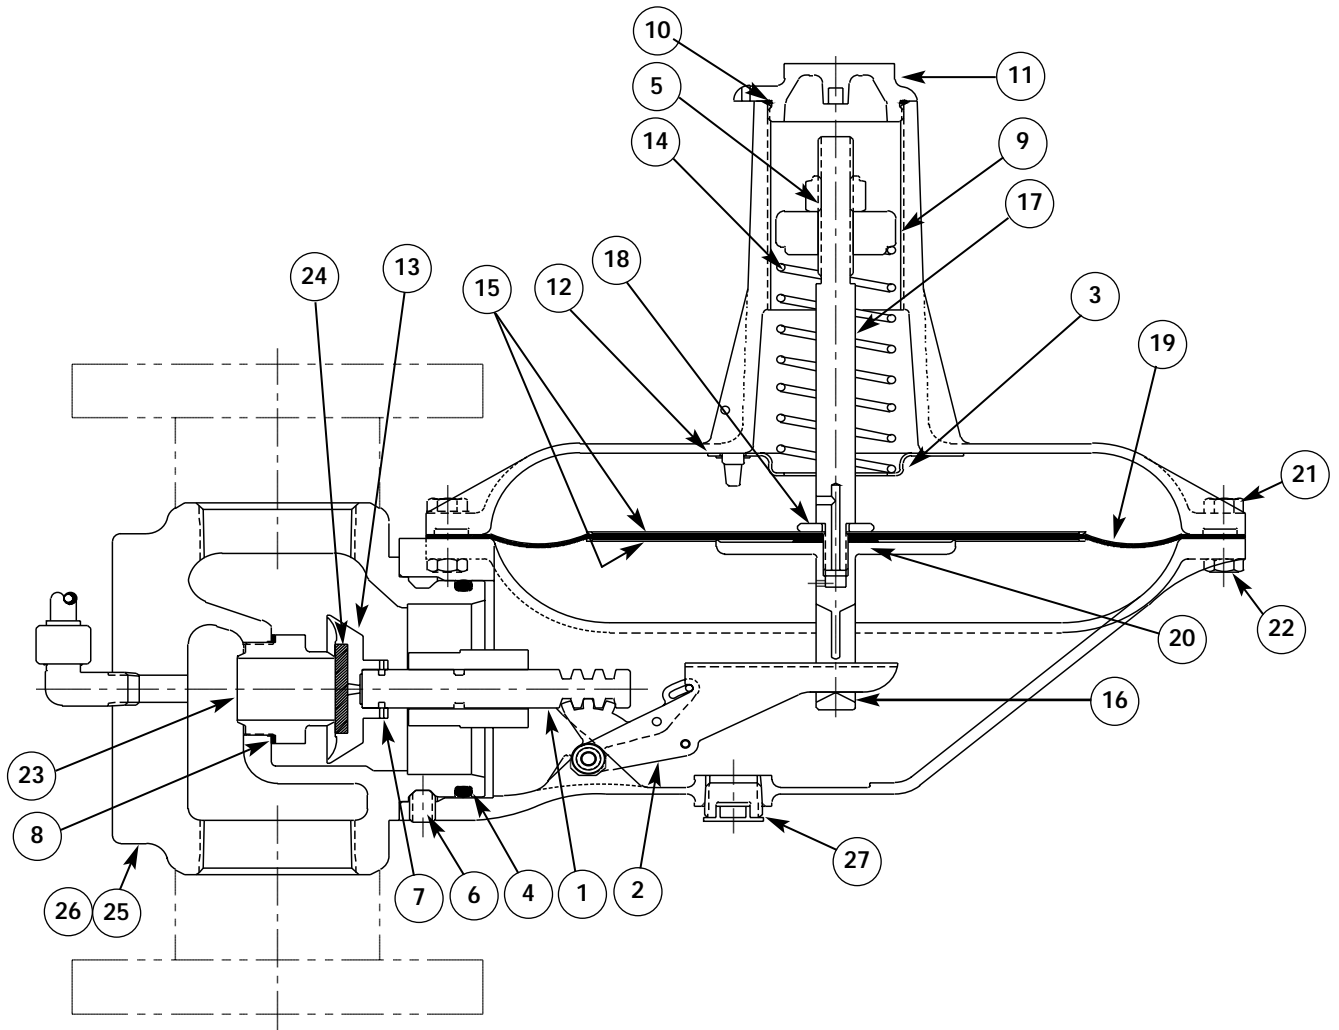

Figure 4
1. Referring to Figures 4 and 5, remove the main regulator assembly from the valve head (25) by loosening set-screws (6).
**Check date code stamped on main seal plug (11).